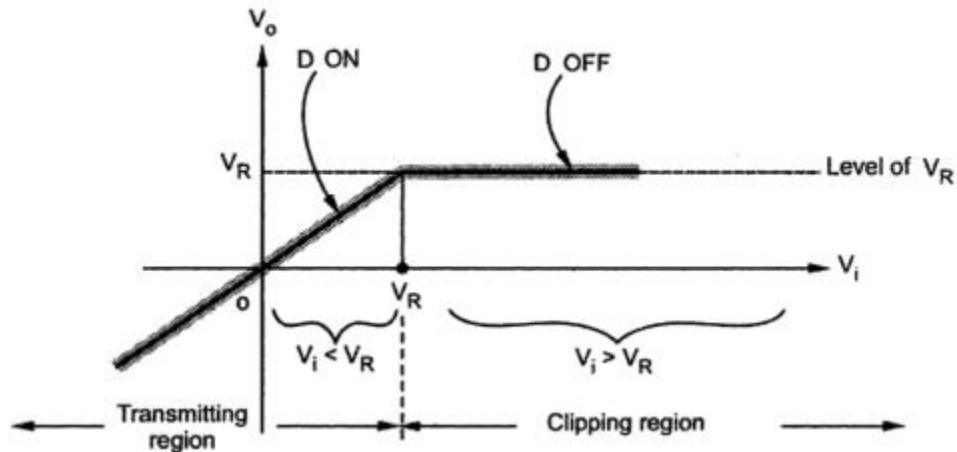

Fig. 1.53 Transfer characteristics
- The transfer characteristic is shown in the Fig. 1.53.